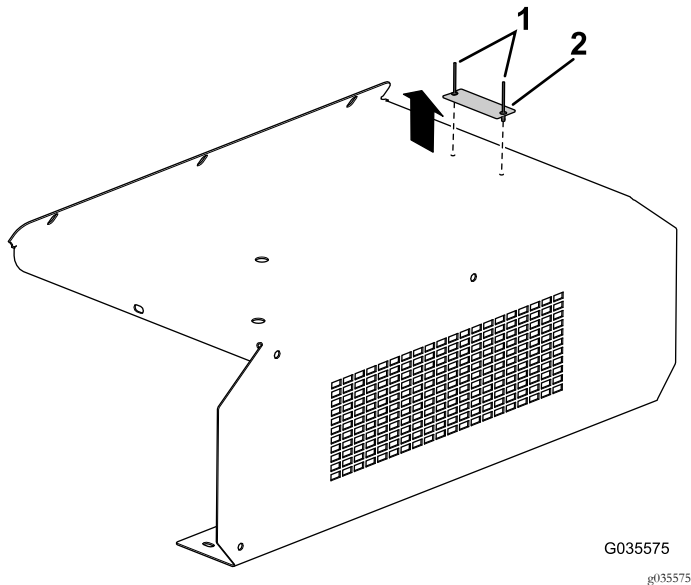

Figure 6
- Remove the serial plate from the removed rinse guard by drilling out the rivets (Figure 6).